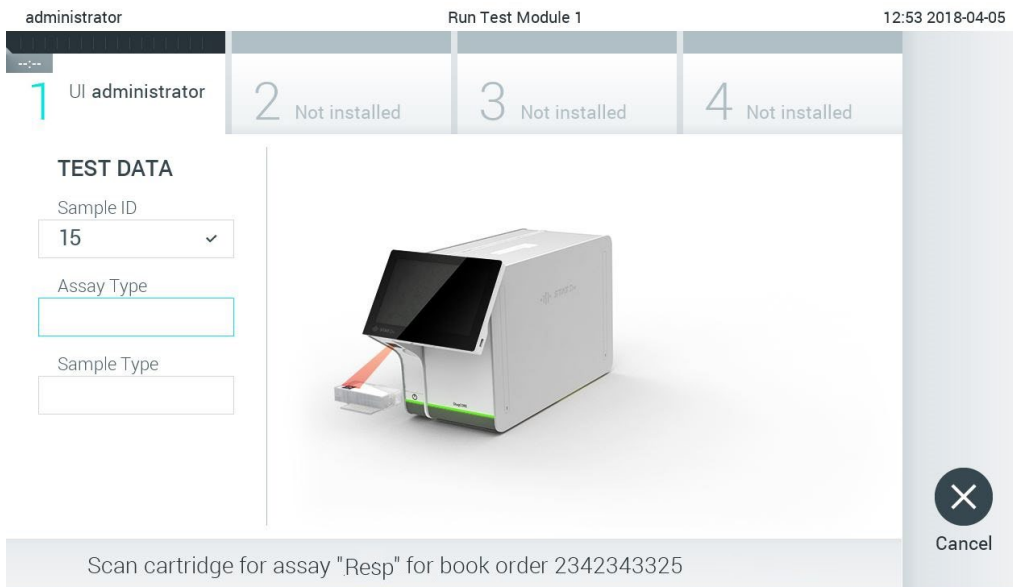

Figure 84. Scanning the QIAstat-Dx assay cartridge bar code.
4. When the test order has been successfully received from the host, "Scan cartridge for assay <assay\_name> and book order <order\_number>" is displayed. Scan the bar code of the specified QIAstat-Dx assay cartridge (Figure 84).